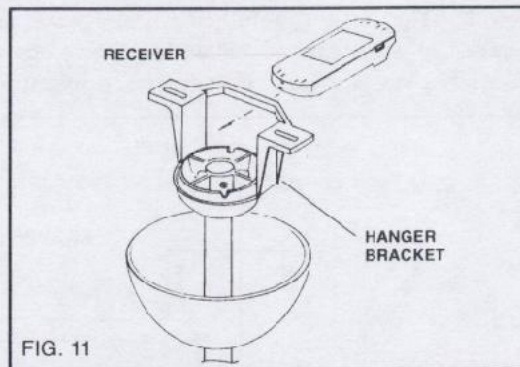

FIG. 11
**Step 1.** (Fig. 11). Insert the receiver into the Mounting Bracket, with the flat side of the Receiver facing the ceiling.